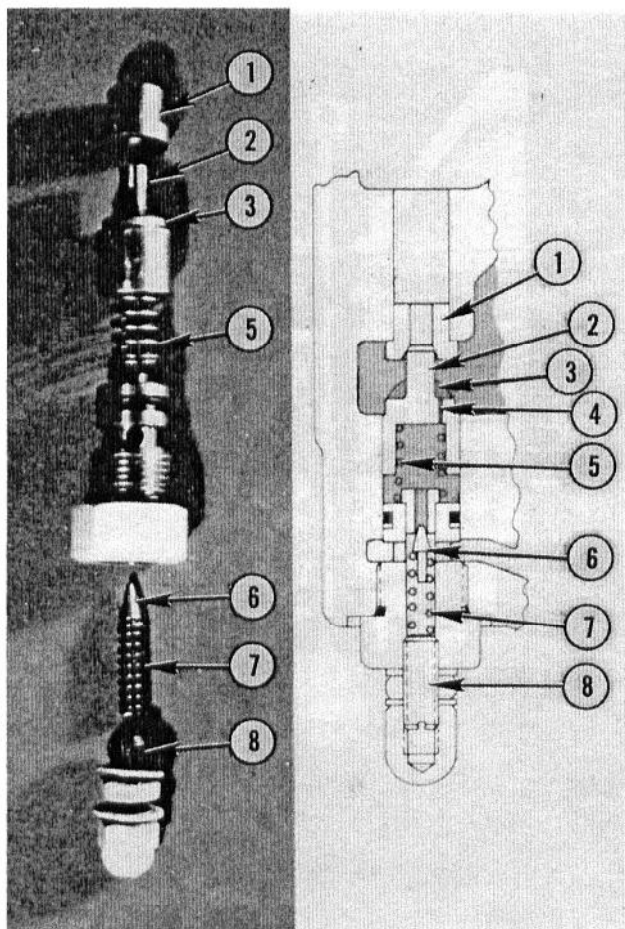

Fig. 10 — Main Relief Valve Parts
b. Main relief valve setting exceeded ... see Fig. 10. When setting of main relief is exceeded, poppet moves downward to allow inlet oil to return past the valve seat and into the outlet chamber (of mounting flange). Inlet oil AND operating oil pressure passes through the screen and orifice of valve poppet ... into the spring area of poppet. Pressure on both sides of poppet are now equal and the spring can hold poppet against its seat. When oil pressure exceeds the setting of the pilot valve ... the pilot moves down (against spring tension) and the oil at spring side of poppet is "dumped" to return ... and the inlet PLUS operating oil pressure acts against poppet to move it downward against its spring and "opening" poppet seat (oil flows to return). As soon as system pressure is